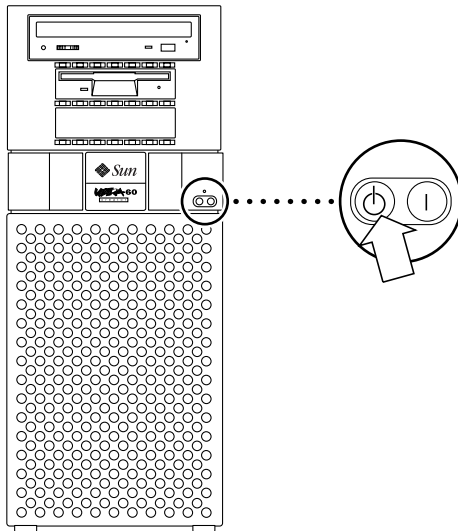

FIGURE 6-3 System Unit Power-Off (Front Panel)
3. **Set the front panel power switch to the Off position (FIGURE 6-3).**